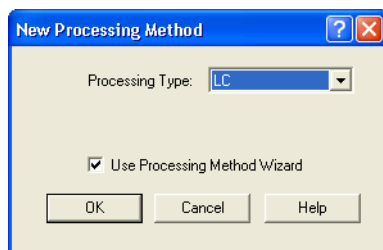

Figure 4-19 New Processing Method Dialog Box
5. Click **Create a New Processing Method**, then click **OK**. The New Processing Method dialog box appears (Figure 4-19).